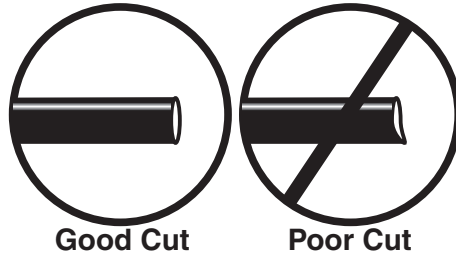

fig. 6
WHEN CUTTING OR TRIMMING THE AIR LINE, USE A HOSE CUTTER, A RAZOR BLADE OR A SHARP KNIFE. A CLEAN, SQUARE CUT WILL ENSURE AGAINST LEAKS. DO NOT USE WIRE CUTTERS OR SCISSORS TO CUT THE AIR LINE. THESE TOOLS MAY FLATTEN OR CRIMP THE AIR LINE, CAUSING IT TO LEAK AROUND THE O-RING SEAL INSIDE THE ELBOW FITTING (FIG. 6)
7. On the passenger side only, place the provided thermal sleeve (T) on the air line near the exhaust.
8. Cut off air line leaving approximately 12” of extra air line. A clean square cut will ensure against leaks (see fig. 6). Insert the air line into the air fitting. This is a push to connect fitting. Simply push the air line into the 90° swivel fitting until it bottoms out (9/16” of air line should be in the fitting).